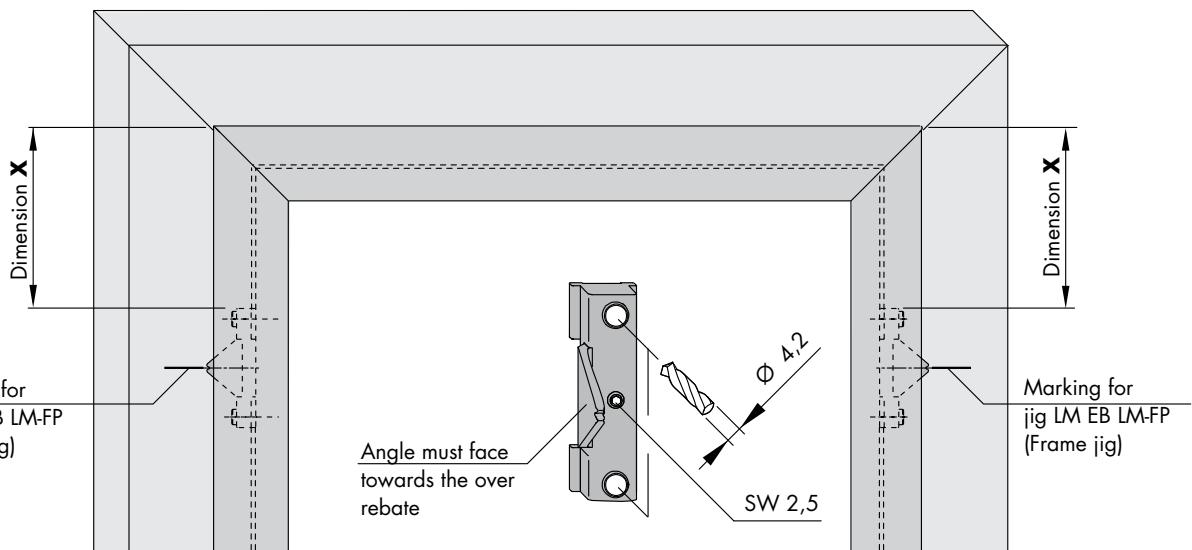

Figure 1
10. Drill holes $\phi 4.2$ for stop plate (6) (see Figure 1).
11. Make markings for jig LM EB LM-FP (frame jig) on frame (see Figure 1).